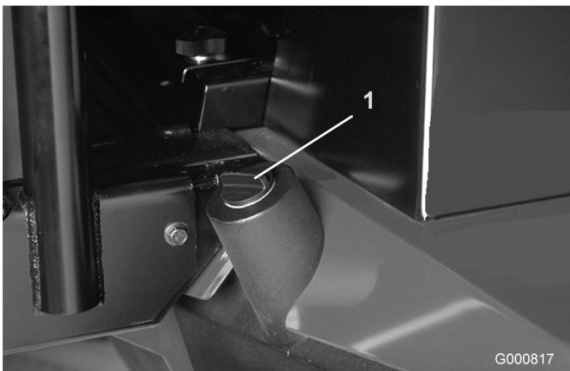

Figure 34
2. Clean area around filler neck and cap of hydraulic tank (Figure 34). Remove cap from filler neck.